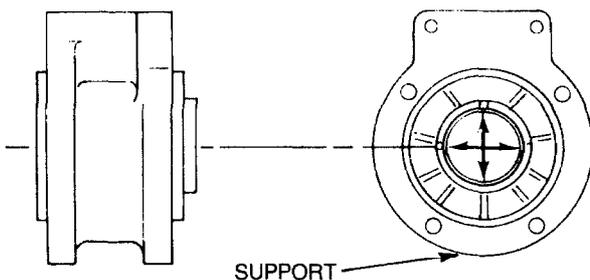

Figure 243 — Measuring Support Bearing
- n. Measure the diameter of the support bearing as shown in Fig. 243. The standard diameter is 47.600-47.650 mm (1.8740-1.8760 in.) and the wear limit is 47.688 mm (1.8775 in.). Replace the support if the diameter is below the wear limit.